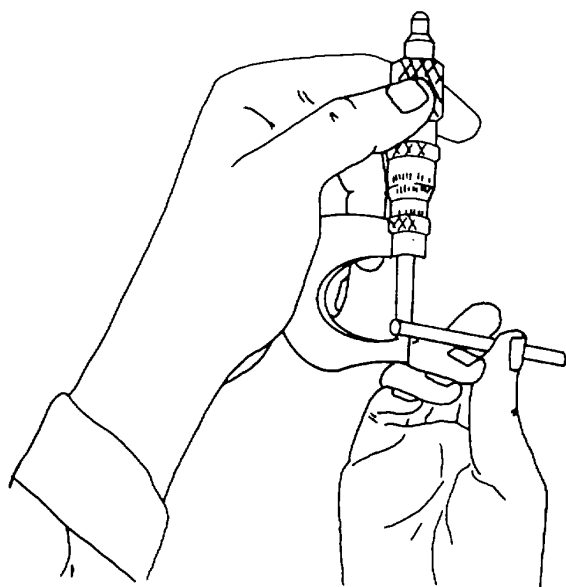

Figure 3-39. Using Outside Micrometer
(1) *Outside micrometer.* As shown in figure 3-39, the micrometer is held in one hand and the stock in the other. The thimble is turned until the anvil and spindle just touch the stock. The micrometer is then read for an accurate measurement.